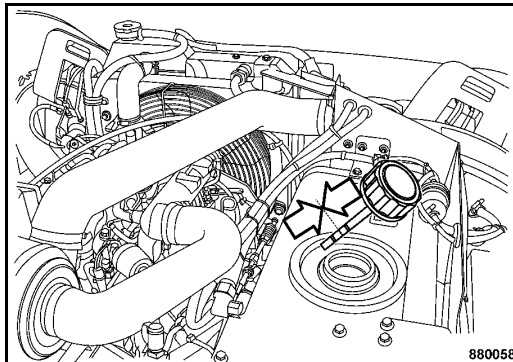

Fig. 170
- Check the hydraulic oil level on the dipstick (Fig. 170).